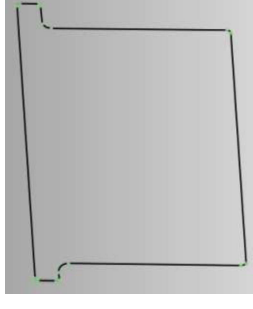

Figure 119
- A curve object is created in the **Model Manager Panel**, Right click all other objects and Hide them to view the new **Free Curve** object, see **Figure 119**.